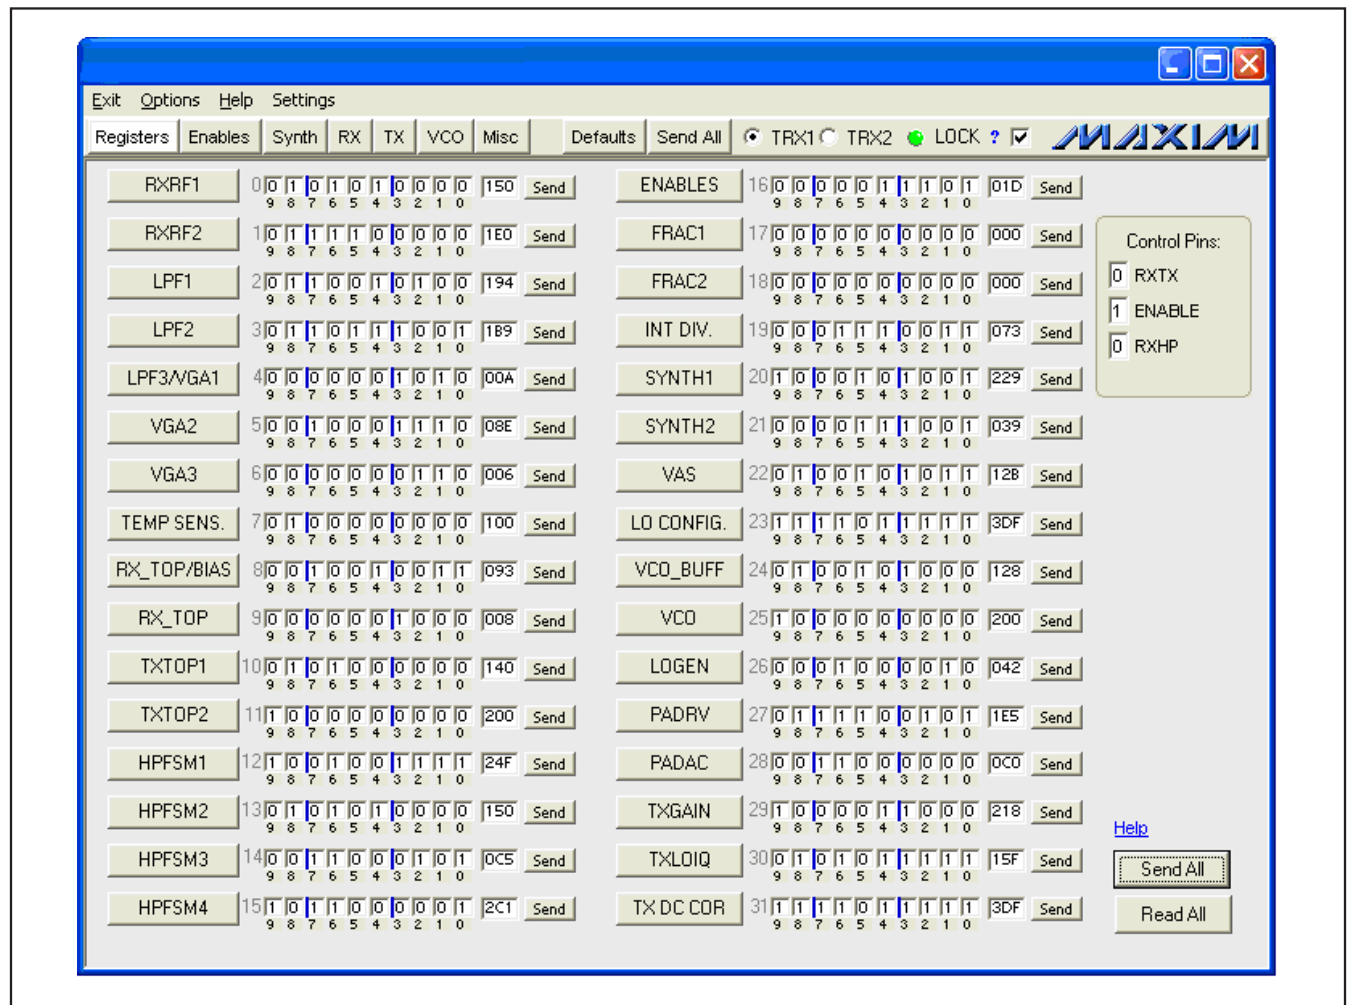

Figure 2. Transmit Mode Register Setting
- 4) In the Registers panel of the software, enter the recommended register setting shown in Figure 2.